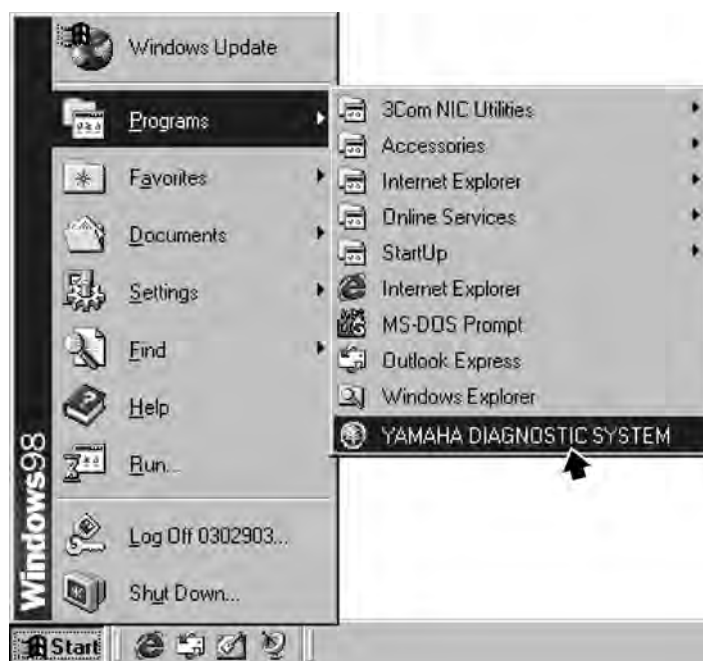

Fig. 10
2. From the taskbar at the bottom of your computer screen, click the **Start** button (fig. 10), point to **Programs**, and then click **YAMAHA DIAGNOSTIC SYSTEM** to open the Yamaha Diagnostic System window. (Fig. 11)